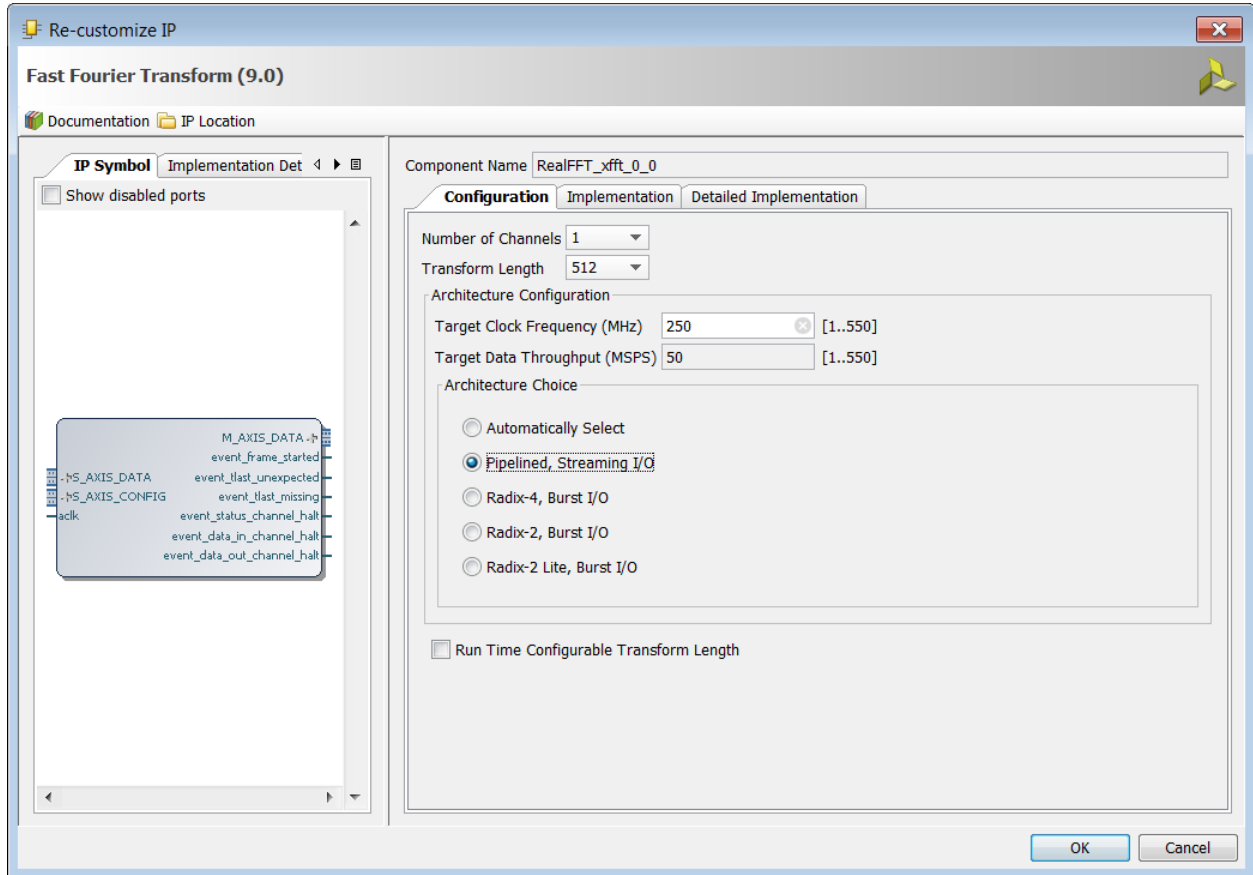

Figure 198: Xilinx FFT Configuration
4. On the **Configuration** tab (Figure 198):